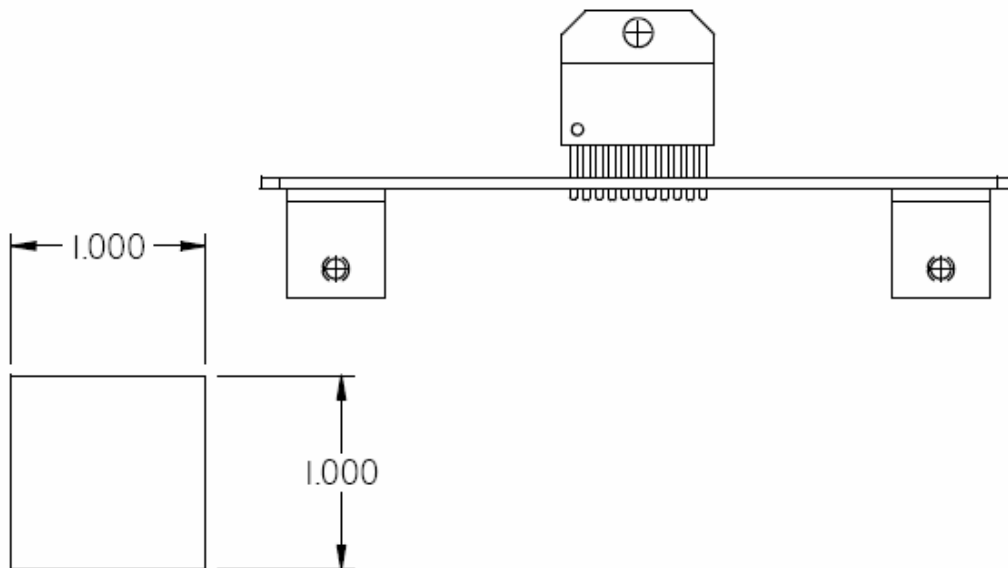

Figure 15-Template for checking mounting height of LM3886
2. With the brackets attached to the PC board, use the template in Figure 15 to check the LM3886 mounting height. If your printer has printed to the correct scale, the square in the figure should be very nearly 1" by 1". Print this page, and set the board and brackets against the page to check the LM3886's height above the board.